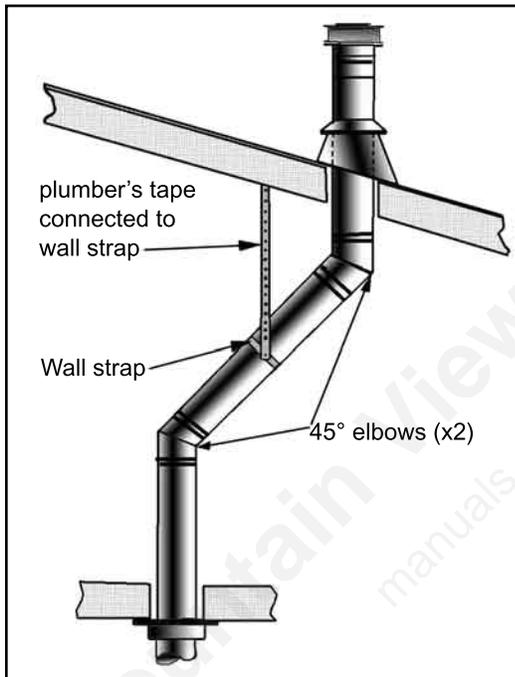

Figure 14: Use of Wall Straps.
- (1) If an offset is necessary in the attic to avoid obstructions, it is important to support the vent pipe every 3 feet (91 cm), to avoid excessive stress on the elbows, and possible separation. Wall straps are available for this purpose (see Figure 14).
- (2) When ever possible, use 45° degree elbows instead of 90° degree elbows. The 45° degree elbow offers less restriction to the flow of flue gases and intake air.